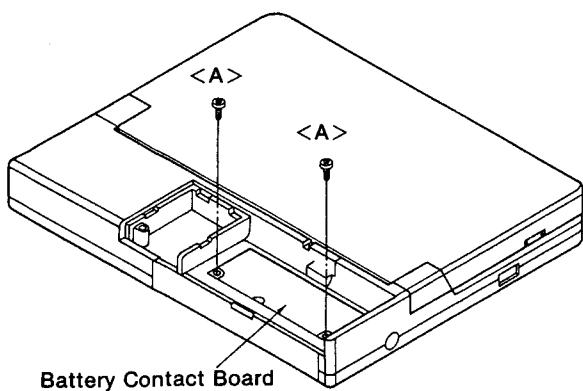

Figure 2
- (3) Remove two screws <A> ($3\phi \times 5\text{mm}$) on the battery contact board as shown in Figure 2.